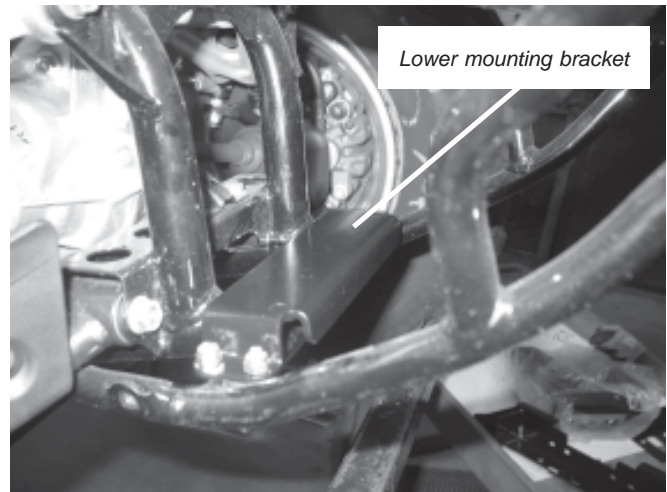

Figure 10
2. Install the lower plow mount support bracket on crosstube of vehicle frame, as shown in Figure 10. Use the 1/4-20 u-bolts and 1/4-20 locknuts to secure in place, but do not tighten at this time. Lay the plow mount assembly on top of the bracket and lean against the rear frame to get the correct orientation. Remove plow mount assembly and torque u-bolt mounting hardware to 8lb. ft. (10.8 N-m).